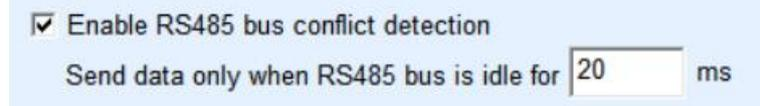

Figure 46 Free time of RS232 conflict prevention
1. Figure 46 shows the RS485 bus collision prevention time. Generally, you can set it to twice the value of Packet Interval in the lower right corner of the parameter configuration page, but the value cannot be less than 20.
At this time, it should be noted that the two check marks "RS485 bus collision prevention time" as shown in Figure 46 and "RS485 command response timeout time"